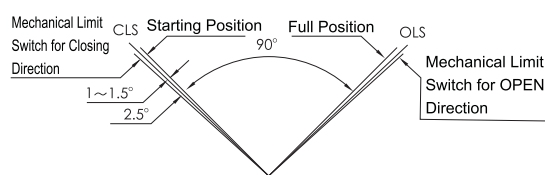

Fig. 10
- 2、 Refer to the adjustment requirements of 《OVERALL ADJUSTMENT OF ELECTRIC VALVE》 , adjust correctly the "Zero" position (4mA position, the corresponding valve at Full Close Position), "Electric Limit Switch" (CLS for close limit, OLS for open limit) and mechanical limit switch to meet the requirement of Fig. 10.